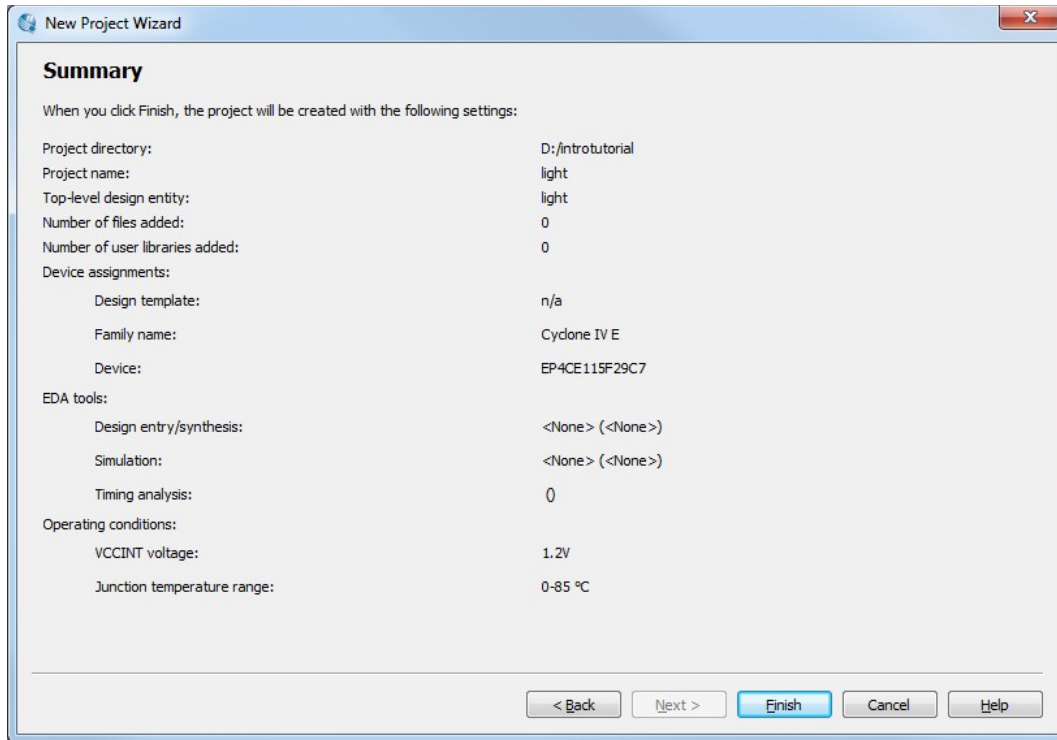
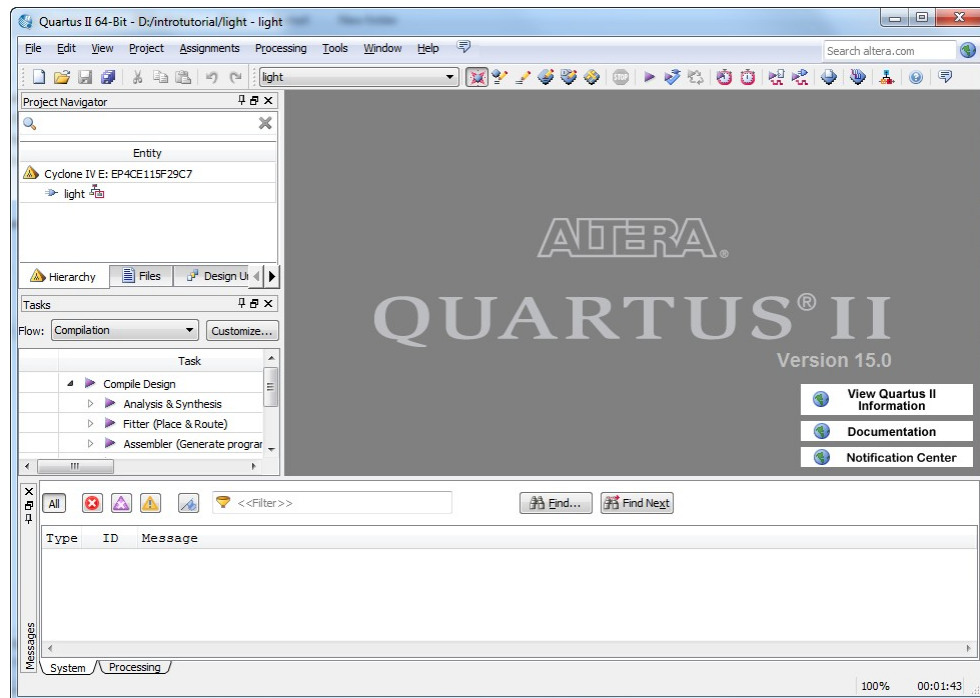

Figure 10. Summary of project settings.
Figure 11. The Quartus II display for a created project.
9. A summary of the chosen settings appears in the screen shown in Figure 10. Press **Finish**, which returns to the main Quartus II window, but with *light* specified as the new project, in the display title bar, as indicated in Figure 11.